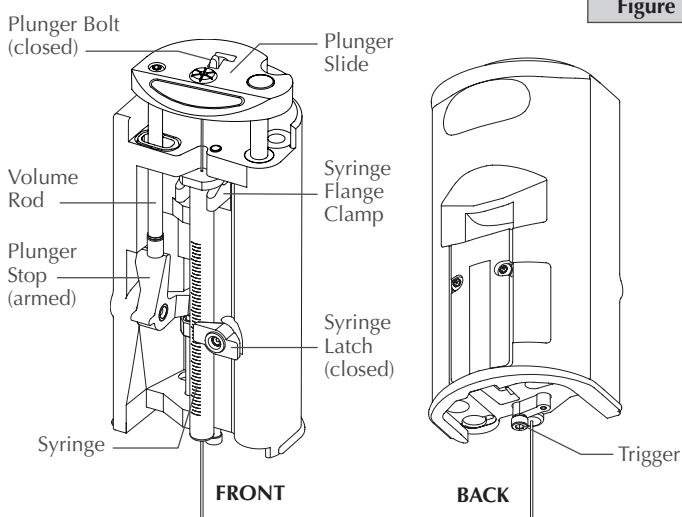

Figure 1
**Figure 1** shows the components of the **Merlin MicroShot Injector** and will be referred to throughout this instruction manual.